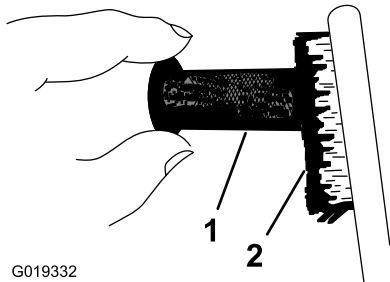

Figure 49
- Use a brush to carefully remove carbon deposits from the spark-arrester screen (Figure 49).